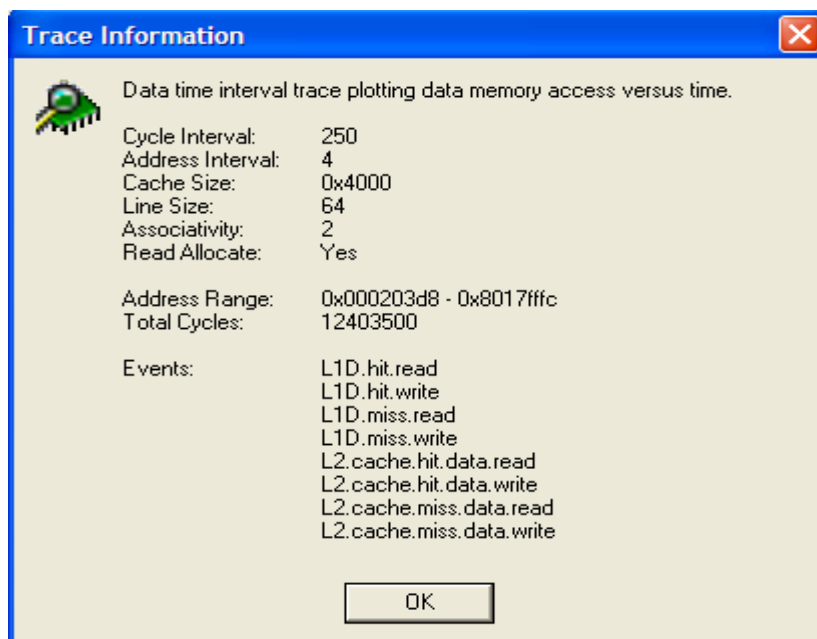

Figure 12. Trace Information Window
2. Click the Show Trace Information button  from the toolbar to display the trace information. This displays a window that provides overview information of the trace data plotting in the CacheTune graph. The Trace Information window is shown in Figure 12. The window tells you the data cache is two-way set-associative with a total size of 0x4000 (16 K) bytes. Each cache way is 8K bytes and the cache line is 64 bytes. L1D is read-allocate cache: it only brings data into cache on a read miss only; write misses are passed directly to L2 through a write buffer, bypassing L1D. Write misses do not stall the CPU unless the write buffer is full. Unlike L1D, L2 cache is a read and write allocate cache, meaning the data is brought into cache on a write miss as well. This information is necessary to understand the cache behavior with this particular example. The cache events collected and the graph properties (cycle interval, address ranges, etc.) are also displayed in the window.